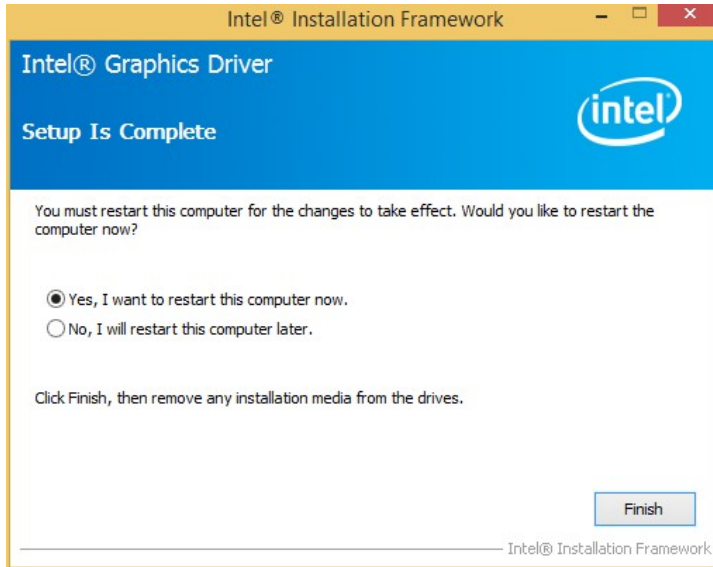

Figure 6-12: Graphics Driver Installation Finish Screen
Step 12: The Finish screen in Figure 6-12 appears.